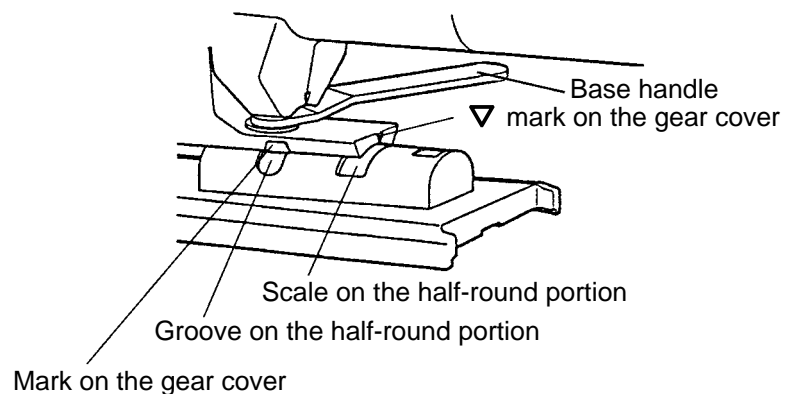

Fig. 2
- ② Move the base forward or backward if necessary. For bevel cutting, align the horizontal groove on the half-round portion of the base to the mark on the gear cover to incline the base. The base can be inclined to either side (right or left) up to 45°. The half-round portion is calibrated from 0° to 45° in increments of 15°. The base can be easily inclined by adjusting the ▼ mark on the gear cover to the desired calibration (Fig. 2).